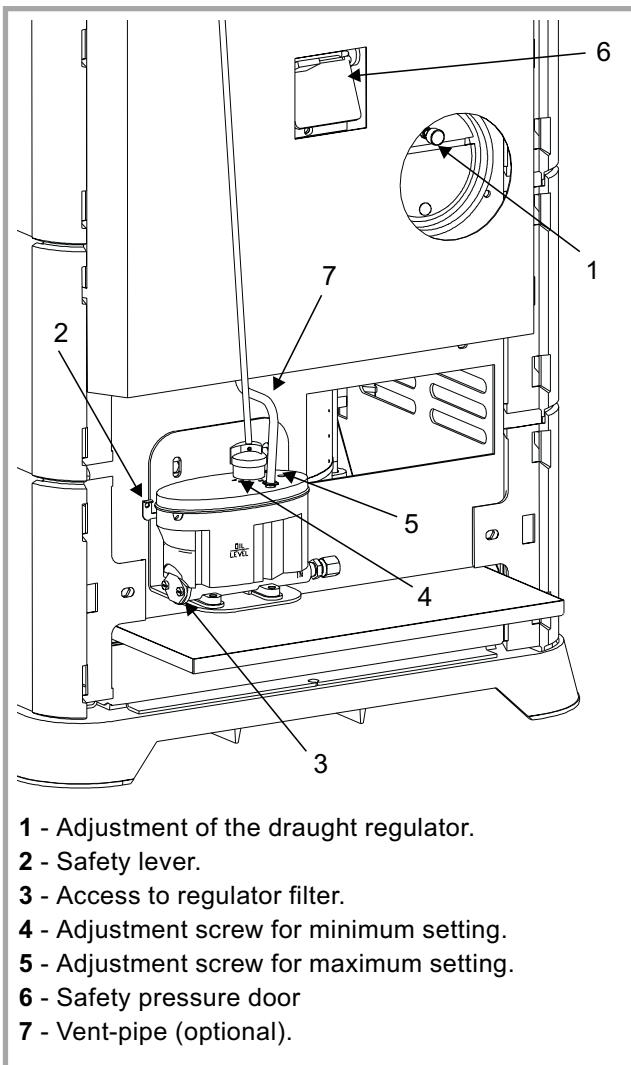

Figure 11 - Operating devices
A draft regulator (# 1, fig. 11) ensures a constant air intake to the burner regardless of external factors.
**Low setting** (Refer to fig. 11 , # 4) :
**High setting** (Refer to Fig. 11 , # 5) :
The adjustment of the draught will be made with the barometric damper located at the back of the stove (# 1, fig. 11).
- Push down gently on the safety lever (# 2, fig. 11, p. 7). This will allow the oil to flow into the regulator.
- Raise the safety lever of the regulator (# 2, fig. 11, p. 7).
- raise the safety lever of the float regulator (# 2, fig. 11, p. 7),
- remove the filter cover plate located under the regulator (# 3, fig. 11, p. 7) with a screwdriver,